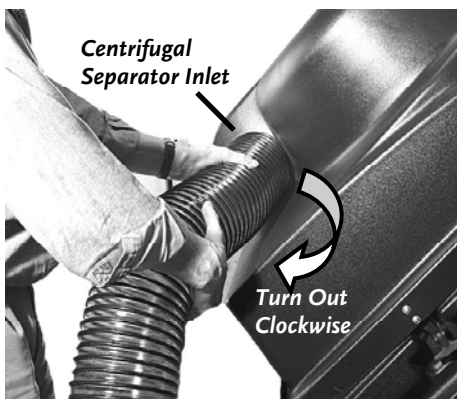

Figure 43
3. Remove the Hose from the inlet of the Centrifugal Separator by grasping the Hose and unscrewing it, clockwise (**Figure 43**).